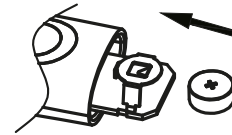

Figure 5
4. Use pointed object such as a pen to remove old battery. Discard battery lawfully. Replace with new 1.5V DC button type LR41 or SR41, UCC392, or equivalent. Be sure battery is installed with polarity facing up. (see figure 5)